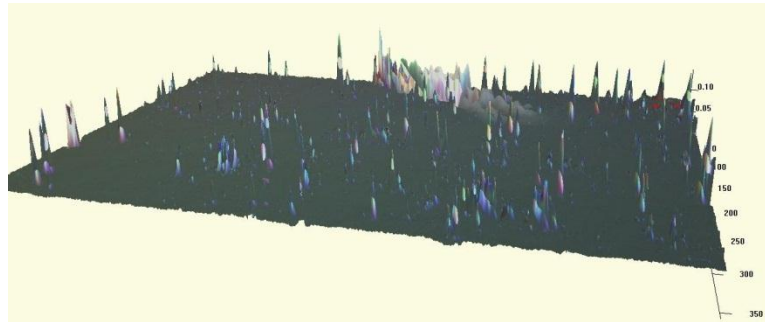

Fig. 42. 3D image of silicon wafer with particles
10. Click **OK**. The image will be converted into a height image and can be stored and analyzed like a conventionally scanned image. An example is shown in Fig. 42. The Z height is approximately 0.2 μm , demonstrating the increased vertical resolution achieved with this technique.